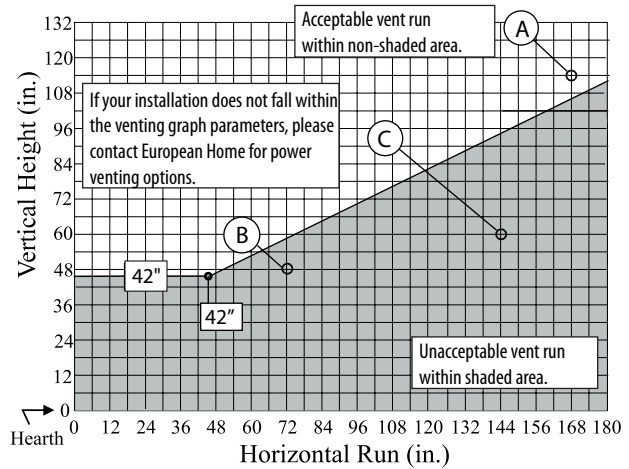

Figure 15 Vista 38 Top Vent Venting Graph for wall mounted terminations.
- Once the proposed venting layout has been determined refer to *Figure 15* to ensure the layout is acceptable.
- Venting runs *must* fall within the limits set by the venting graph, see *Figure 15*.
Measure the vertical height from the fireplace hearth to the center of the termination and the horizontal run from the fireplace flue collar to the wall flange of the termination. Plot on the Venting Graph *Figure 15* with an 'X'.
Figure 16. Top Vented, wall mounted installation with 1 elbow (1 one 90° bend). The vent run must comply with Venting Graph for Top vent, wall mounted terminations, Figure 15.